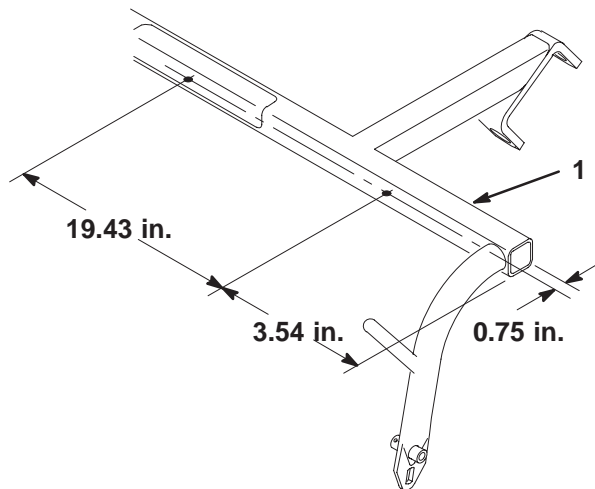

Figure 1
1. Using the dimensions shown in Figure 1, locate, mark, and drill two .221 in. diameter holes in the underside of each pull frame cross tube.